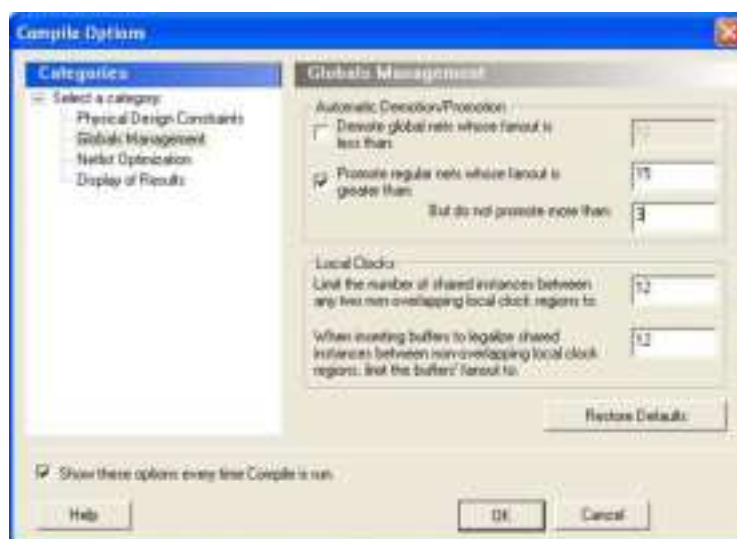

Figure 1-33 • Compile Options - Globals Management
7. In the **Compile Options** dialog box, choose **Globals Management** and enter the following (Figure 1-33):